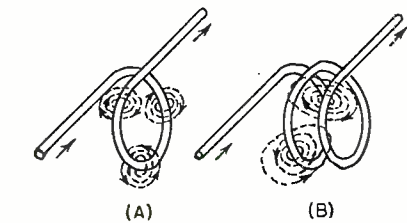

Fig. 1.
The self-inductance of a given conductor comprising an electric circuit depends greatly on its physical arrangement. If it is in the form of a straight wire, or a single-turn loop, its inductance is comparatively low, for then any one element of the conductor is cut only by the lines of force created by the current flowing through it alone (see (A) of Fig. 1). If the same conductor is wound into the form of a 2-turn coil, as in (B) of Fig. 1, the inductive effect and therefore the *inductance*, is increased. Each turn is now linked and unlinked, not only by its own magnetic field but also by an equal field of the turn adjacent to it.